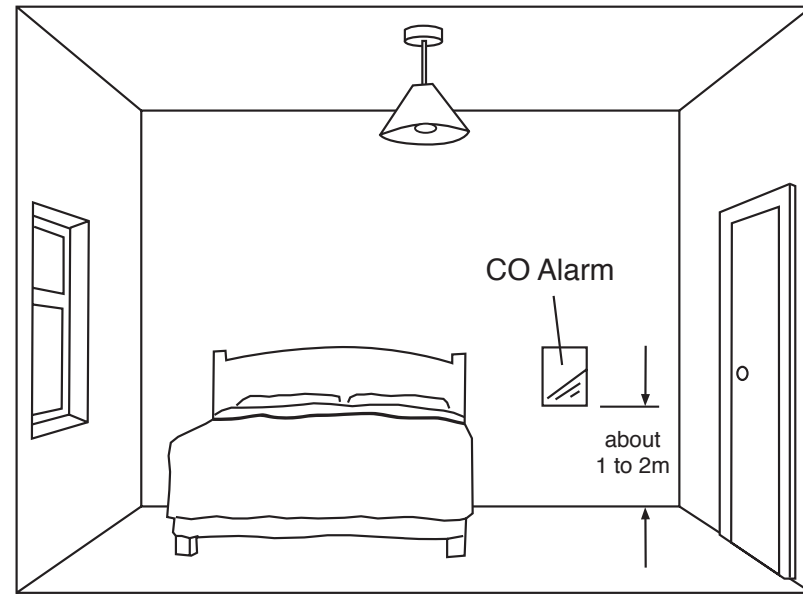

Figure 4. Location in bedroom & rooms remote from the appliance (i.e. at breathing level)
3.4 If locating the CO alarm in a bedroom or in rooms remote from a fuel burning appliance (see figure 4)